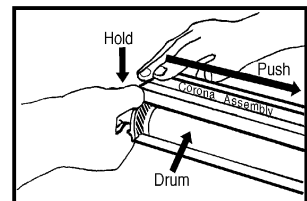

Figure 4
- Remove the PCR (Fig. 4). Push the PCR assembly to the right and lift up. Remove the phillips head screw holding the hub on the small gear.